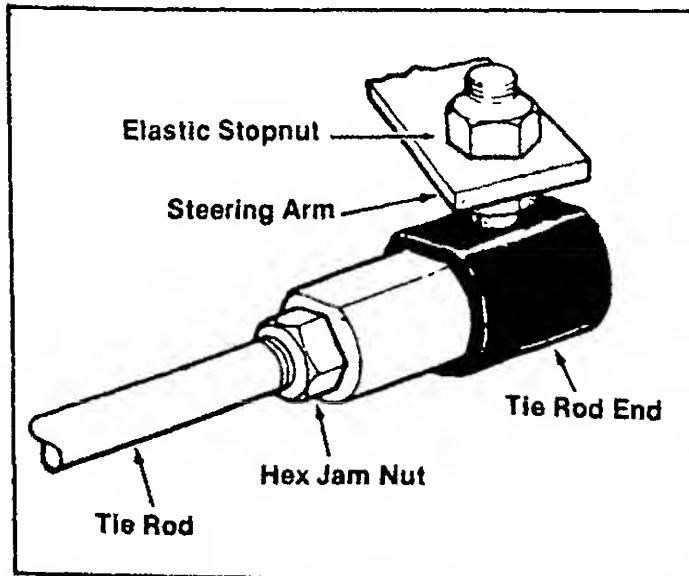

FIGURE 21. TIE ROD ADJUSTMENT
1. Remove the elastic locknut and drop the tie rod end from the wheel bracket. See figure 21.